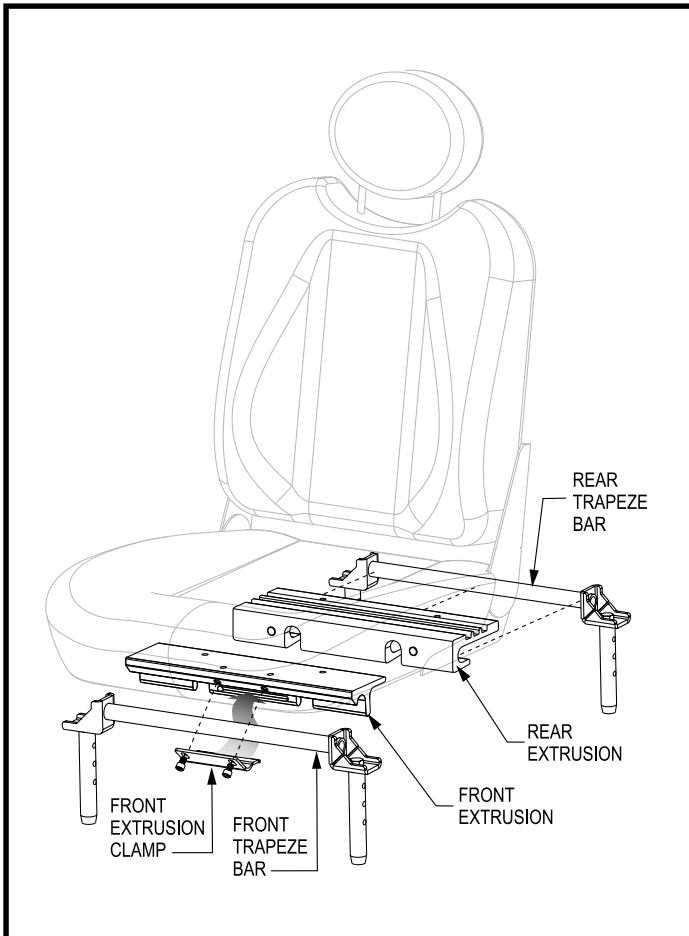

Figure 12. Universal Mounting System
2. Remove the front extrusion clamp from the front extrusion. See figures 12 and 13.
2. Remove both extrusions from the bottom of the seat. See figure 12.